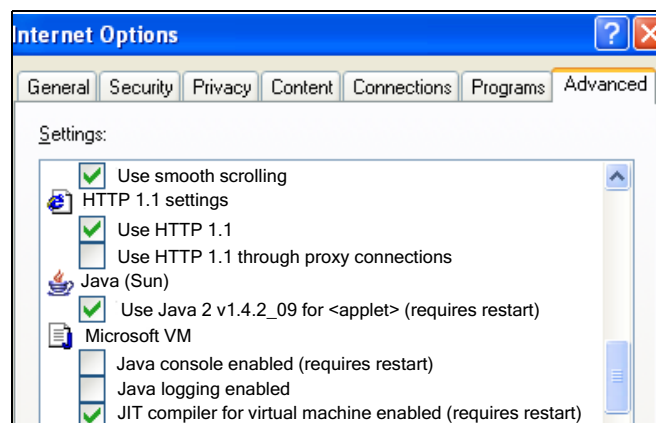

FIG. 32 Java Internet Options
9. The TOF 200 EasyKey software requires Sun java to operate. Open your web browser options advanced tab and select Java (Sun) and deselect the Microsoft VM selection. See FIG. 32. If the Sun Java option is not available follow the **Software Operation** procedure and load the Sun Java program when the appropriate screen and link appear.